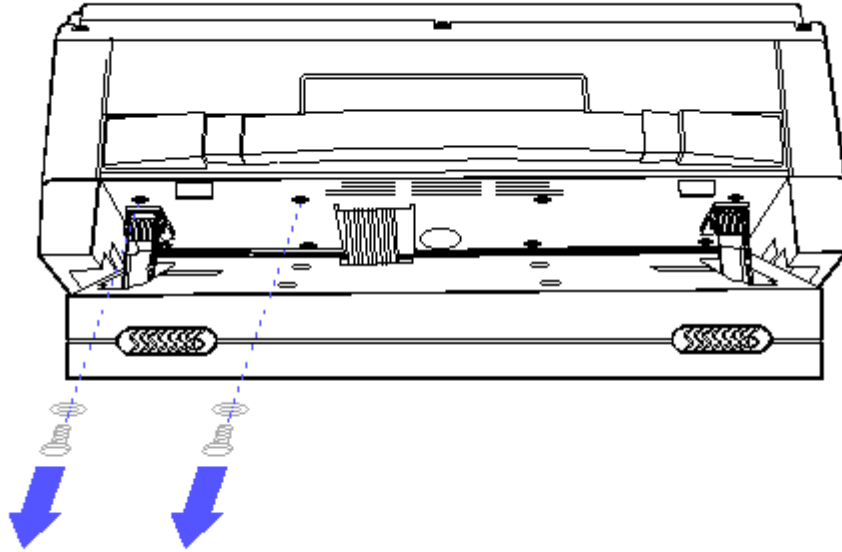

Figure 8-53. Removing the Top Two Screws and Washers from the Power Supply
12. Place the plasma display at an outward angle and remove the top two screws and washers with an angle Torx screwdriver (Figure 8-53).